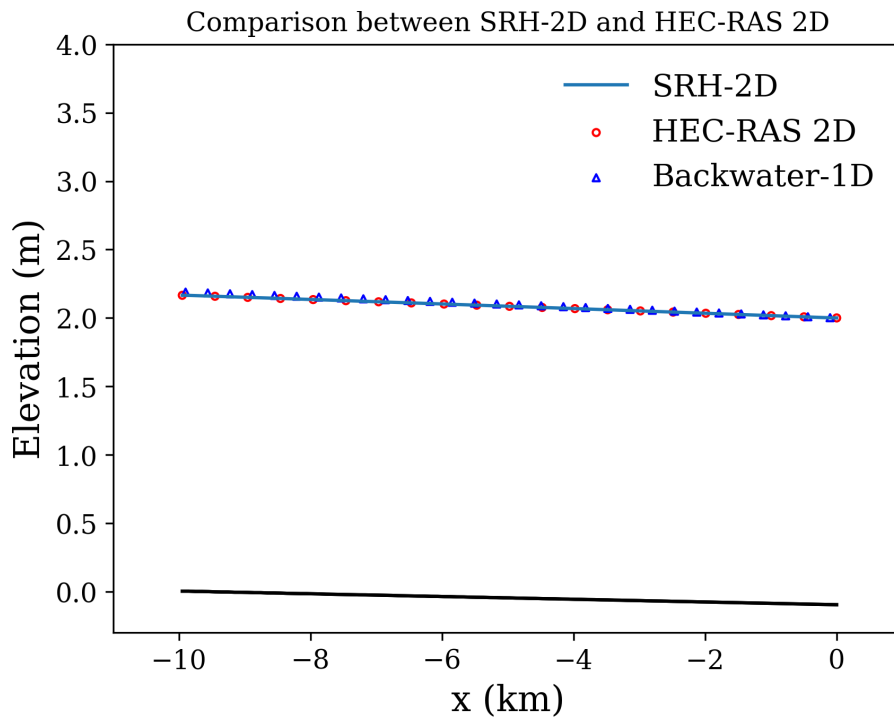

Figure 3.4 Comparison among SRH-2D, HEC-RAS 2D, and Backwater-1D solutions using *pyHMT2D*.
- Run the Python script “`compare_SRH_2D_HEC_RAS_2D.py`” to extract the water surface elevations from both SRH-2D and HEC-RAS 2D results in VTK format. It also run a simple 1D backwater curve solver. All three water surface profiles are plotted together for comparison (Figure 3.4). In addition, this script calculate the differences in simulation results between SRH-2D and HEC-RAS 2D and save them into separate VTK files. You can load these VTK files in ParaView to check the differences. For example, Figure 3.5 shows that the difference in water surface elevation is very small for this case.